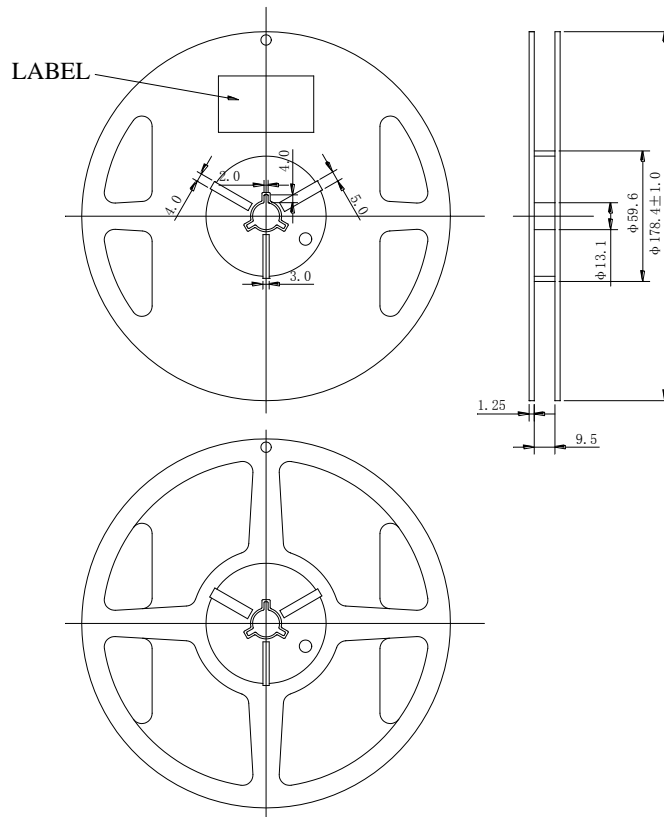

Fig.1
- 1) Packing material: Reel(Fig.1)